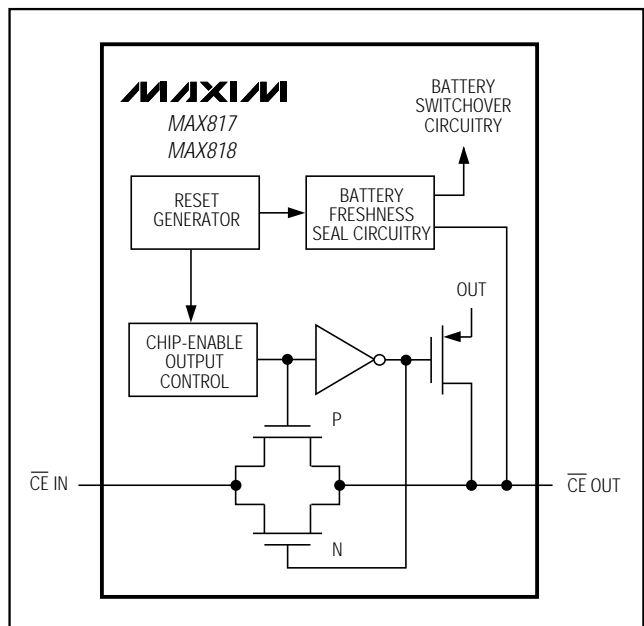

Figure 5. Chip-Enable Transmission Gate
Internal gating of the chip-enable (CE) signal prevents erroneous data from corrupting CMOS RAM in the event of an undervoltage condition. The MAX818 uses a series transmission gate from  $\overline{CE IN}$  to  $\overline{CE OUT}$  (Figure 5). During normal operation (reset not asserted), the CE transmission gate is enabled and passes all CE transitions. When reset is asserted, this path becomes disabled, preventing erroneous data from corrupting the CMOS RAM. The short CE propagation delay from  $\overline{CE IN}$  to  $\overline{CE OUT}$  enables the MAX818 to be used with most  $\mu P$ s. If  $\overline{CE IN}$  is low when reset asserts,  $\overline{CE OUT}$  remains low for typically 15 $\mu s$  to permit the current write cycle to complete.
When the CE transmission gate is enabled, the impedance of  $\overline{CE}$  OUT is equivalent to a  $40\Omega$  resistor in series with the source driving  $\overline{CE}$  IN. In the disabled mode, the transmission gate is off and an active pull-up connects  $\overline{CE}$  OUT to OUT (Figure 5). This pull-up turns off when the transmission gate is enabled.